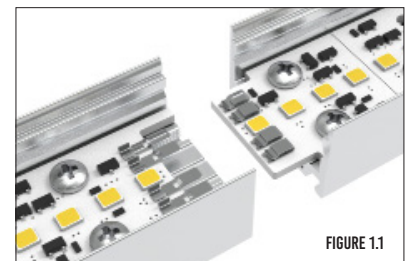

FIGURE 1.1
- Fixtures daisy chain together with Scout_Lock™ Technology. See figures 1.1 and 1.2 below.